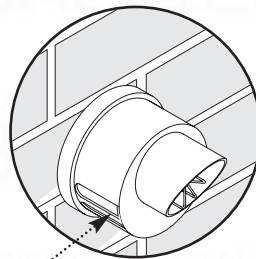

Fig. 44
12. Ensure that the terminal is positioned with the slots to the bottom (Fig. 44).